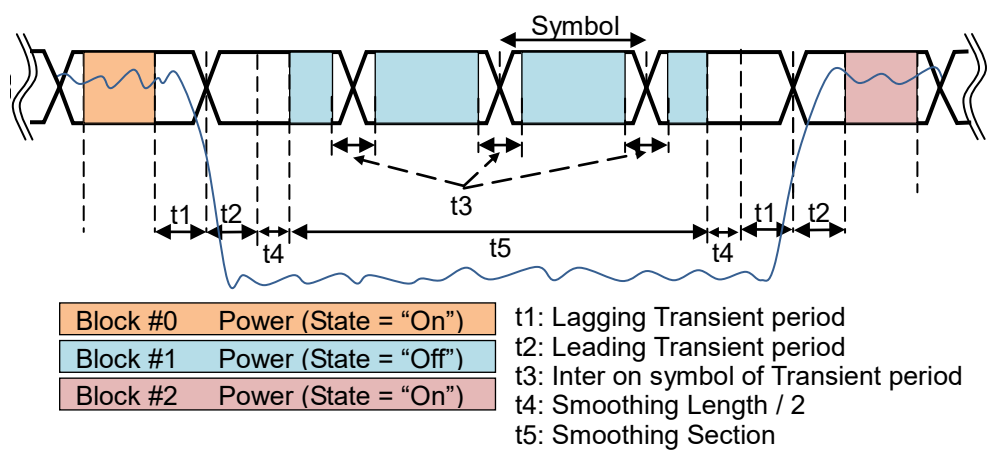
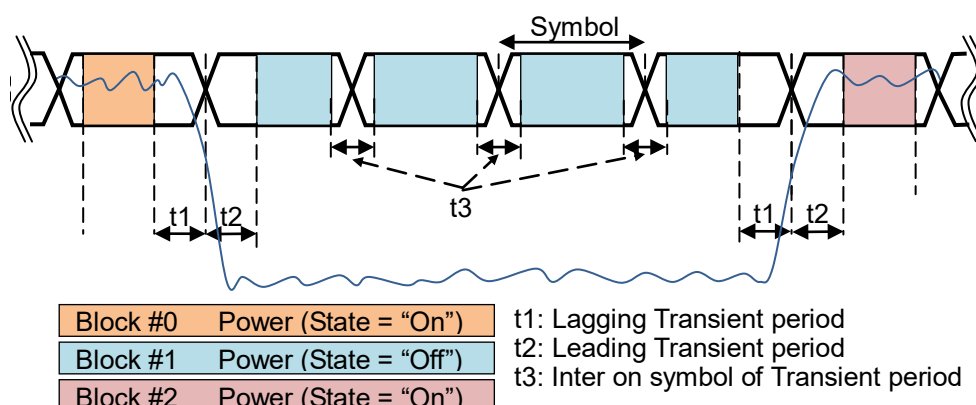

Figure 3.22-3 Off Block Power Calculation Range (1)
Figure 3.22-4 Off Block Power Calculation Range (2)
Refer to Figure 3.22-3 Off Block Power Calculation Range (1)
Refer to Figure 3.22-4 Off Block Power Calculation Range (2)
- Figure 3.22-3 Off Block Power Calculation Range (1):
- Figure 3.22-4 Off Block Power Calculation Range (2):
- Figure 3.22-3 and Figure 3.22-4 shows the power calculation range for each block when the state of 6 symbols is "On, Off, Off, Off, Off, On".